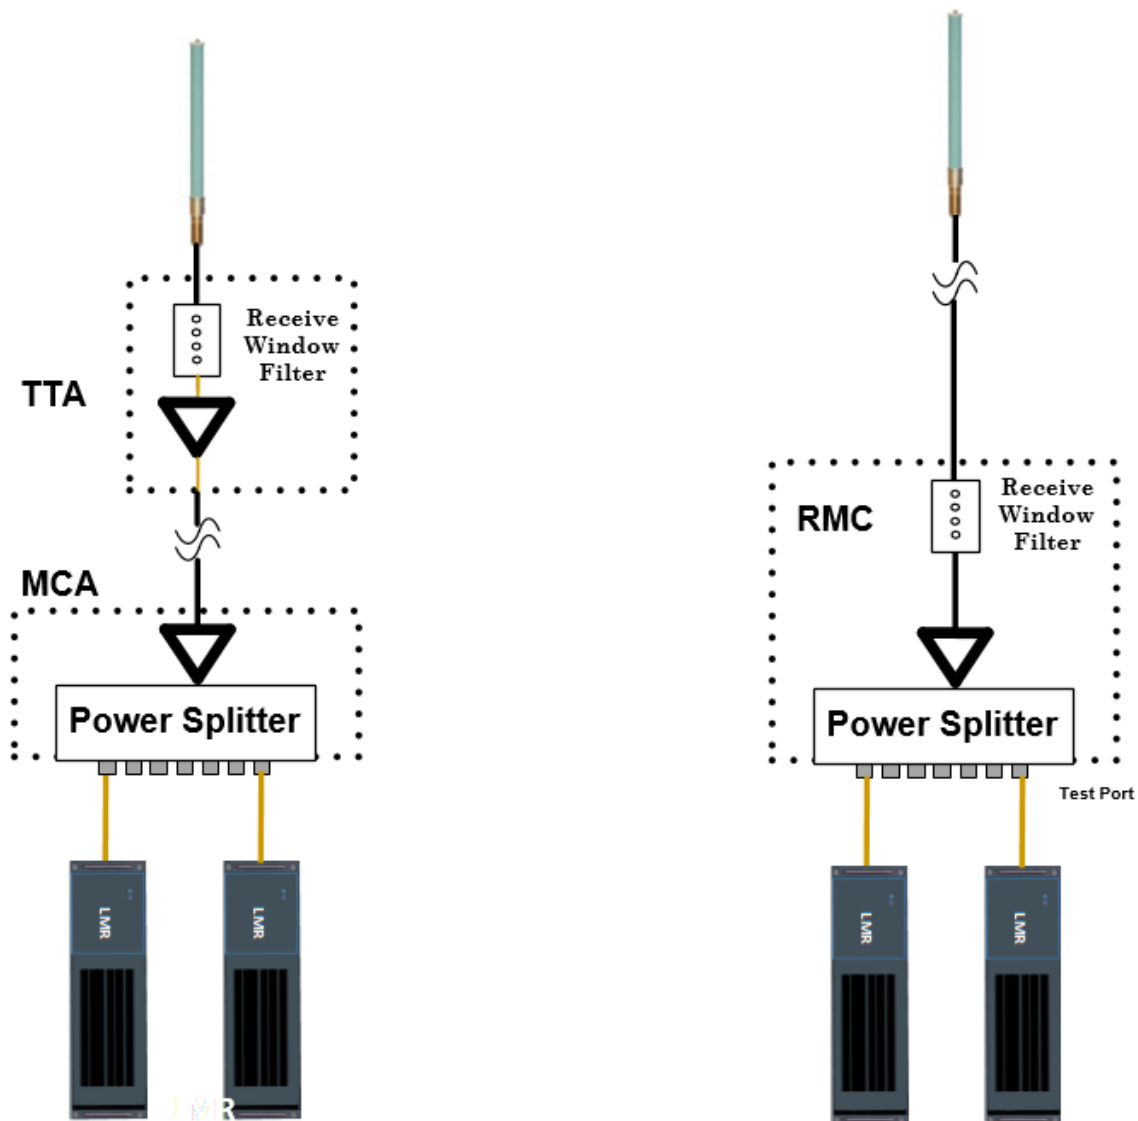

Figure 5A: Receive Filter application
- **Receive Filter** – Receive filtering, also called the preselector or receive window filter protects the sensitive amplifiers in the receive network. There **Must Always** be filtering between the antenna and the first amplifier. The amplifiers will be overdriven and operation degraded by high-level carriers if this filtering is not provided or is inadequate. *Figure 5A* shows the configuration of the receive filter in a TTA and NON-TTA application.